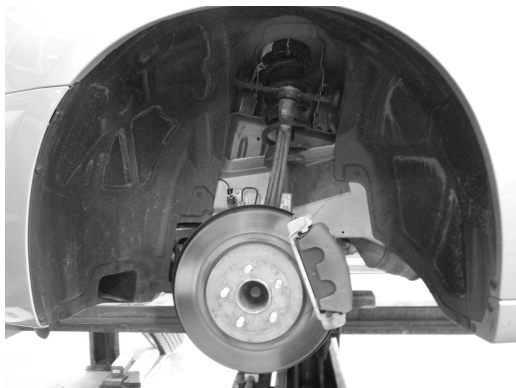

Fig. 2
2. Remove the rear tire and support the hub assembly (Fig. 2)